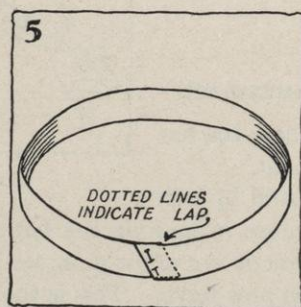

FIG. 5.
- a. Lap the end of the strip from where you started to measure, over to the first set of pencil marks, and pin together (see Figure 5). If willow is used, the rough side must be on the outside.